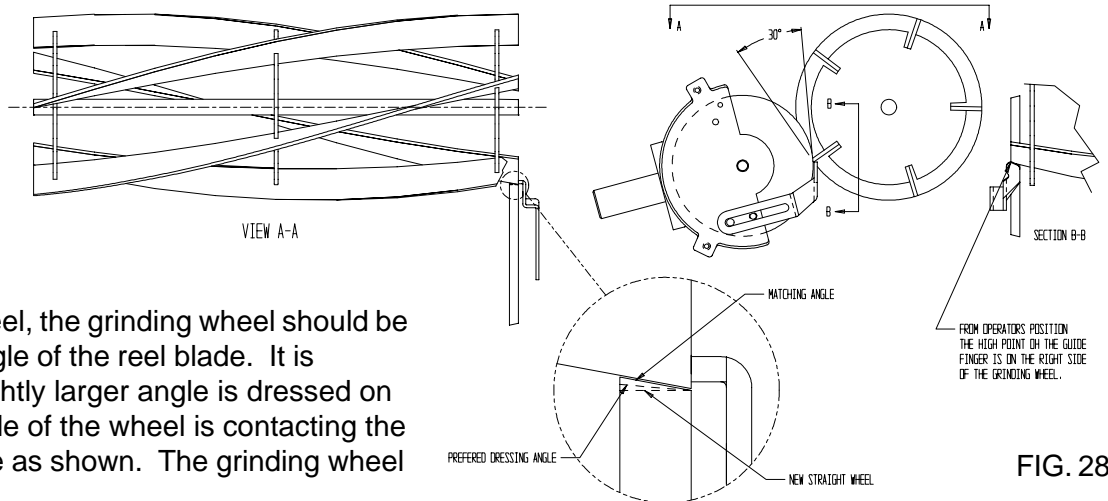
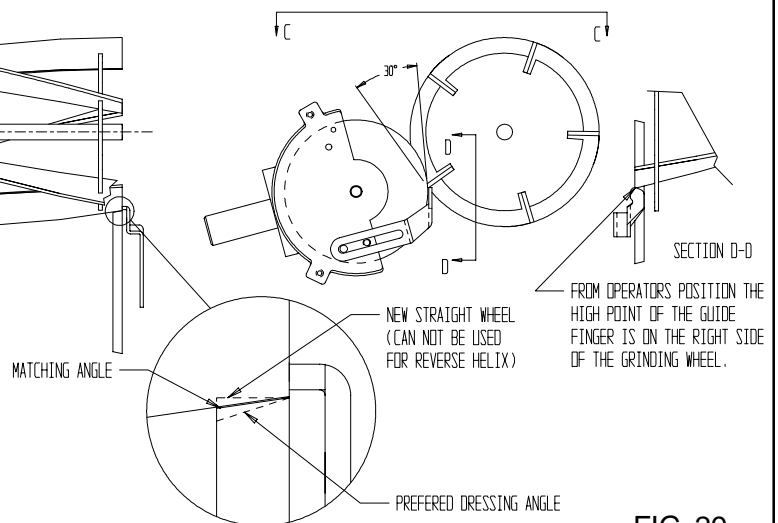

FIG. 28
FIG. 29
A. Check to see if your mowing unit is a normal or reverse helix. NOTE: As you look into the guide finger in FIG. 28 it shows the normal reel helix. The high point of the finger guide is on the right hand side of the grinding wheel. See FIG. 29 for reverse helix. Most mowing units are normal helix.
! The high point of the guide finger must always be at the corner of the grinding wheel that is making contact with the reel. (See FIG. 28 and 29)